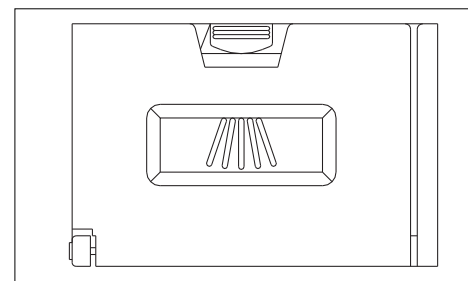

fig. 6b
- Open the lid of the reservoir by pressing button (A).
- Fill the reservoir (B) with approx. 25 grammes of detergent. Follow the detergent manufacturer's guidelines.
- If you select the "intensive" programme, please take the following steps: Fill the reservoir (B) with approximately 20 grammes of detergent, and fill the pre-wash detergent reservoir (C) with approximately 10 grammes of detergent. Close the lid. Depending on the model concerned, the reservoir (C) may be on the top of the lid in the form of a recessed area (see fig. 6b).